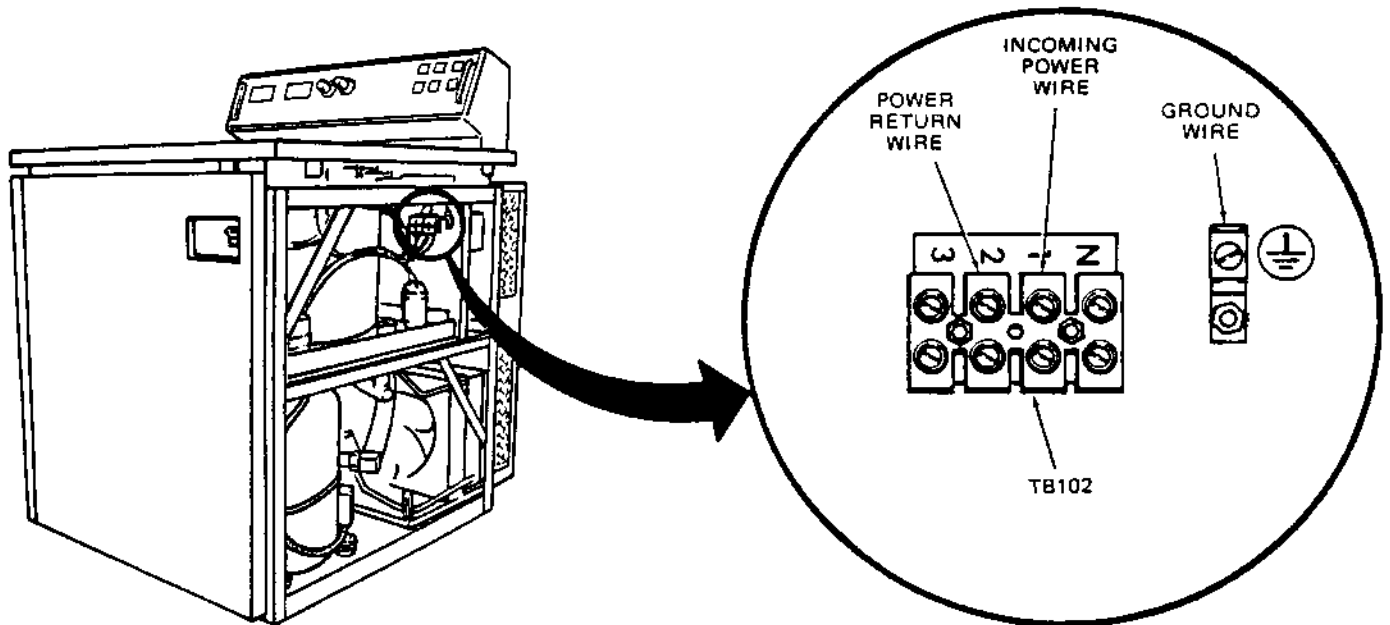

Figure 2-1. Single Phase Permanent Wiring
4. Connect the safety ground wire to the lug connector marked GND , figure 2-1 (on the next page).